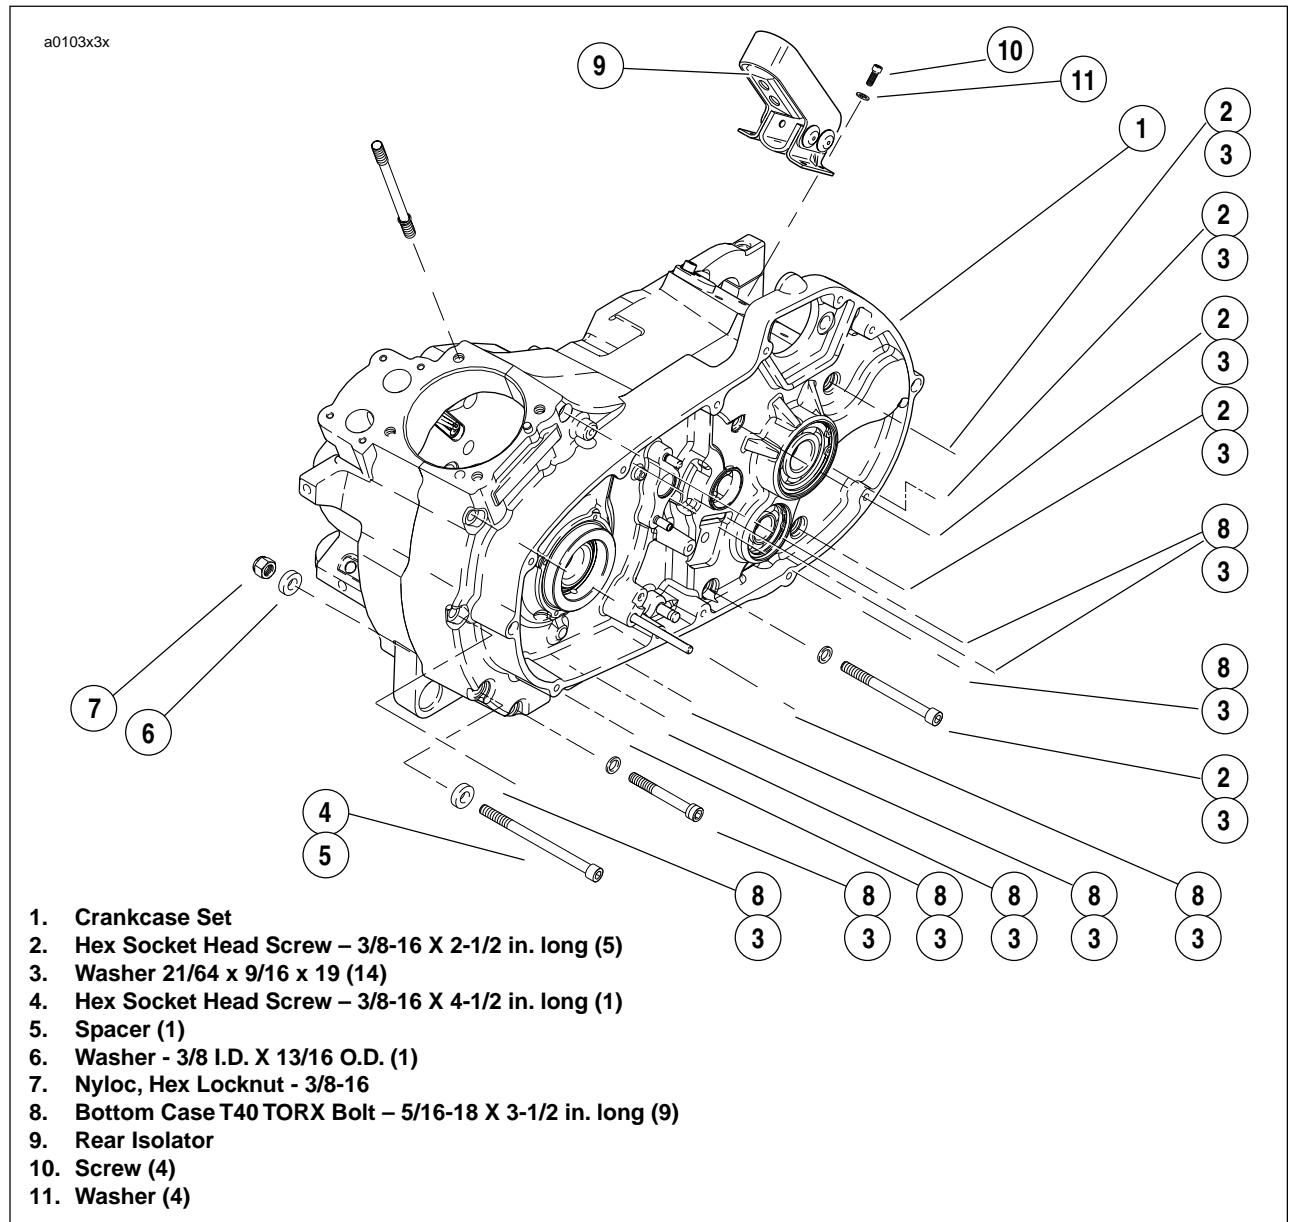

Figure 3-115. Crankcase Hardware
7. See Figure 3-115. Remove screws and rear engine mount bolts securing crankcase halves together.